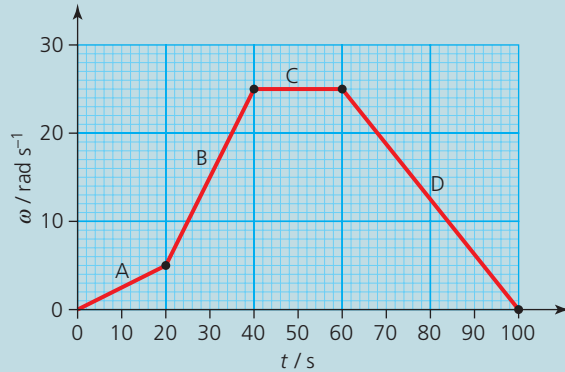

Figure 14
13. The graph in Figure 14 is for a spinning object.